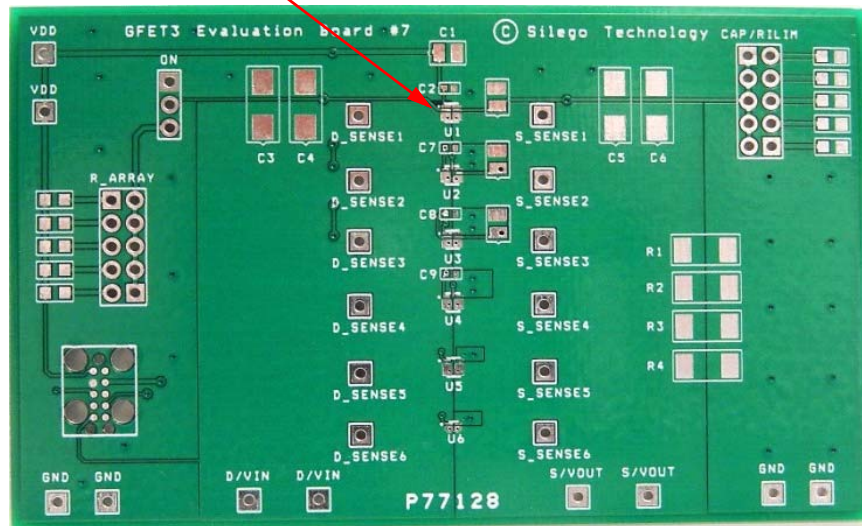

Figure 1. SLG59M1448V Evaluation Board.
2. Since the D and S pins dissipate most of the heat generated during high-load current operation, it is highly recommended to make power traces as short, direct, and wide as possible. A good practice is to make power traces with absolute minimum widths of 15 mils (0.381 mm) per Ampere. A representative layout, shown in Figure 1. , illustrates proper techniques for heat to transfer as efficiently as possible out of the device;
A GreenFET Evaluation Board for SLG59M1448V is designed according to the statements above and is illustrated on Figure 1. . Please note that evaluation board has D_Sense and S_Sense pads. They cannot carry high currents and dedicated only for RDS_{ON} evaluation.